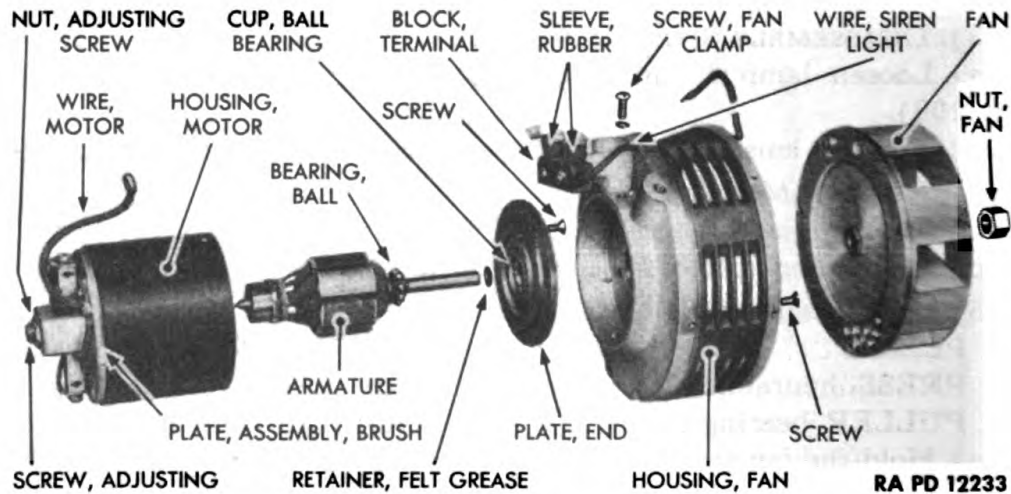

Figure 211—Siren Head Assembly
(a) Hold the fan from turning by inserting screwdriver through slots in fan housing and against blade of fan, and remove fan nut (fig. 211). Lift fan out of fan housing.
brushes from armature and pull armature, with end plate, ball bearing, and felt grease retainer out of motor. Use a bearing puller and remove ball bearing from armature shaft, then press out ball bearing cup from end plate (fig 211).
(g) Press ball bearing on armature shaft and press ball bearing cup in end plate. Slide a new felt grease retainer on armature shaft. Place end plate on armature shaft; then place armature in motor housing and end plate on end of motor housing. Secure end plate to motor housing with 3 screws (fig. 211).
- (h) Secure fan housing to motor with 3 screws and 2 fan clamp screws (fig. 211).
- (j) Clamp fan to end of armature shaft with fan nut (fig. 211).
- (k) Adjust end play of armature shaft by turning adjusting screw (fig. 211). It is properly adjusted when end play is just barely perceptible. Tighten adjusting screw nut (fig. 211).
(3) ASSEMBLE SIREN LIGHT.
- (a) Attach motor hood to siren head with 4 motor hood screws (fig. 211).